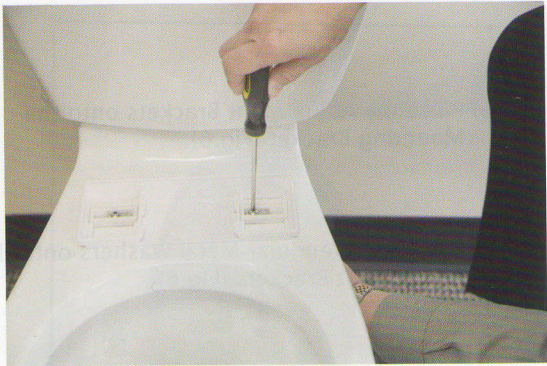

Fig. 9
10) Insert Screw through the Rectangular Metal Washer and Adjustment Brackets and through the toilet bowl hole. (Fig.9).